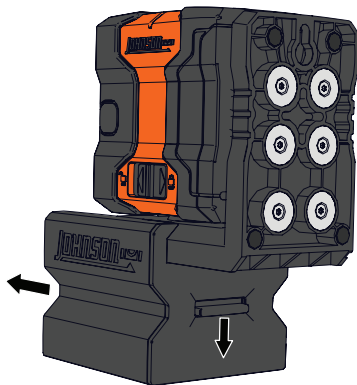

Figure 11
2. To release the magnetic floor mount from the unit, push down on the release tab on the back of the mount and slide the mount and integrated base apart. (Figure 11)